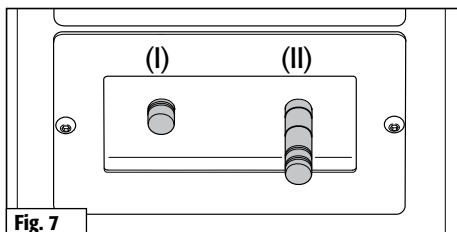

Fig. 7
Adjust primary and secondary air.	Close primary air slider (I), set secondary air slider (II) to position 3. (fig. 7)